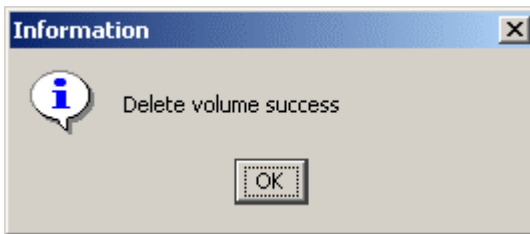

Figure 5-19 Successful Volume Deletion Message
3. Click **Yes** to delete the volume. (Or click **No** to keep the volume.) If you clicked **Yes**, the message in Figure 5-19 appears.